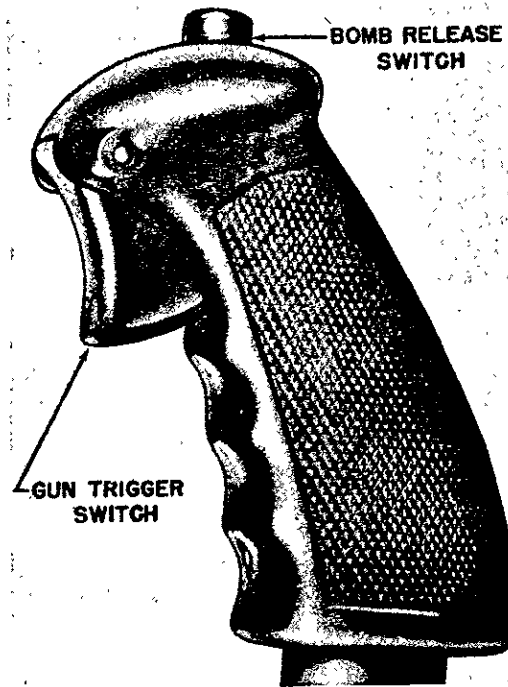

Figure 35—Gun and Bomb Control Switches
(3) **RELEASE.**—Release of the bombs, as selected, is accomplished by the push-button type thumb switch (figure 35) located on the top of the control stick in the front cockpit. Bombs may be dropped selectively by pushing the control stick release button consecutively. The bombs are released in a definite order, from inboard to outboard and simultaneously on both sides of the airplane when both racks are used together. The "BOMB SAFETY" switch circuits and the firing switch circuits on the control stick are protected from current overloads by two 50-ampere fuses in the main switch panel. Provisions are made for a bomb control quadrant (figure 38) on the control shelf on the left side of the front cockpit. This quadrant provides an arming and release handle, stamped "A" and "R", respectively. The arming handle will arm the 20- and 30-pound bombs at the nose, and the 100-pound bombs at the nose or the tail. Except for nose-arming the 100-pound bombs, all arming must be done through this arming handle. The release handle when at "LOCK" position locks the entire system and will prevent release, either electrically or manually, of all bombs. The handle must be moved to "SELECTIVE" position before electrical release can be accomplished. In moving the release handle to "SALVO", all bombs are dropped simultaneously, either in the "ARMED" or "SAFE" condition, according to the setting of the arming handle and the electrical toggle switches. Provision is also made for a release handle in the rear cockpit, beneath the control shelf on the left side, which will only "SALVO" all bombs.
(See figures 35, 36, 37, and 39.)